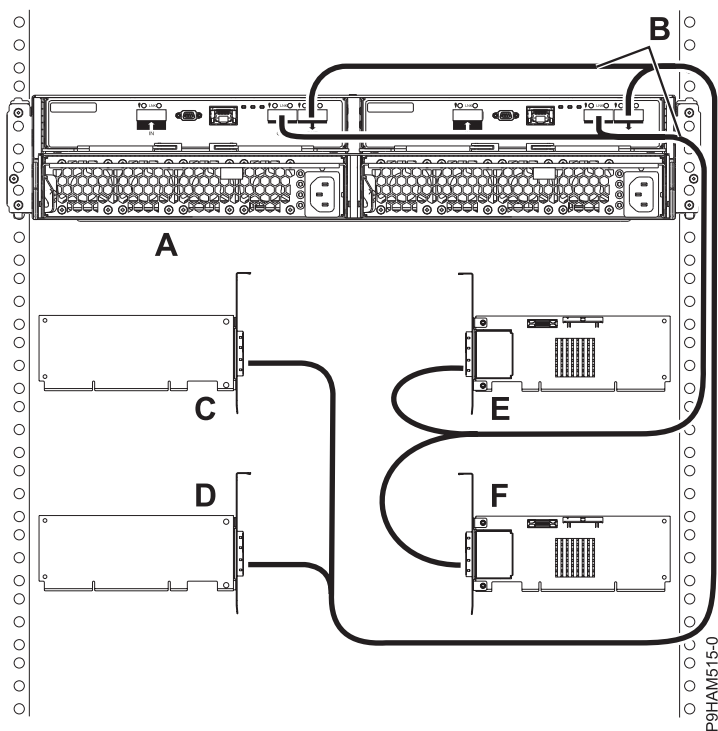

Figure 29. Mode 4 connection of one 5887 disk drive enclosure by using X cables to four independent SAS adapters
20. Complete a mode 4 connection of one enclosure (A) by using X cables (B) to four independent SAS adapters (C, D, E, and F) as shown in Figure 29 on page 27, and then continue with “Connecting cables, power cords, and installing covers” on page 28.